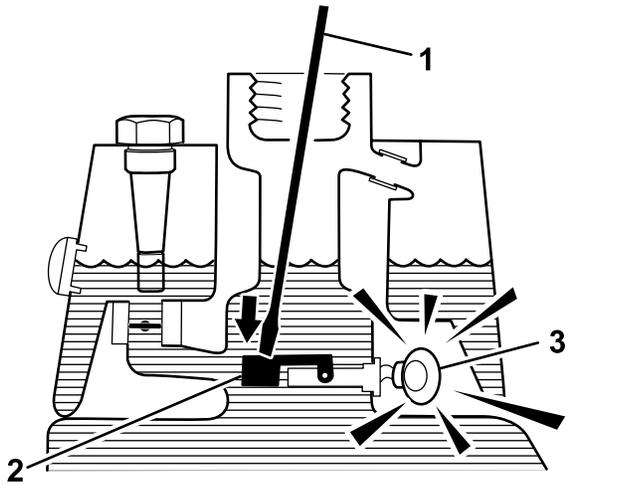

Figure 60
3. Insert a clean rod or screwdriver into the tank neck and gently push down on the switch float (Figure 60); the alarm should sound after the 1-second delay.